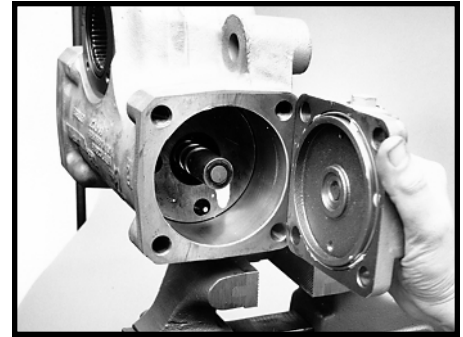

Figure 120
17. Position the end cover (37) so that the poppet adjusting screw (42) is aligned with the end of the poppet (32). SEE FIGURE 120.